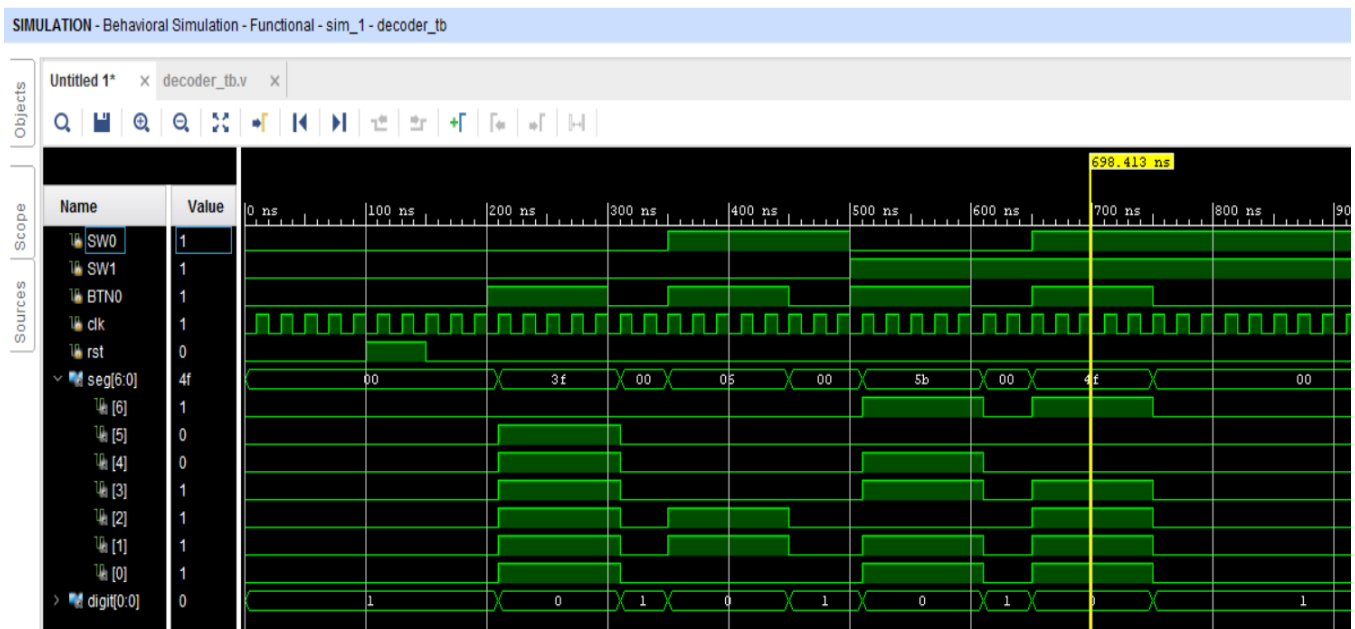

Figure 3: Seven-segment decoder simulation waveforms
11. Your simulation output should look like Figure 3 below.